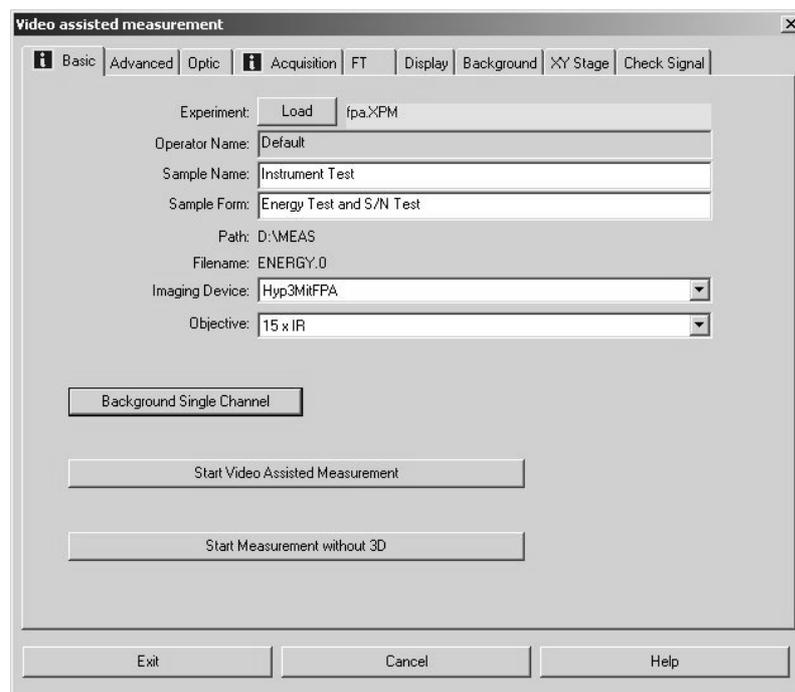

Figure 4: Video assisted Measurement Dialog Box
**Note:** The selected objectives are offered as options in the *Objective* drop-down list of the *Video assisted measurement* dialog box (figure 4).